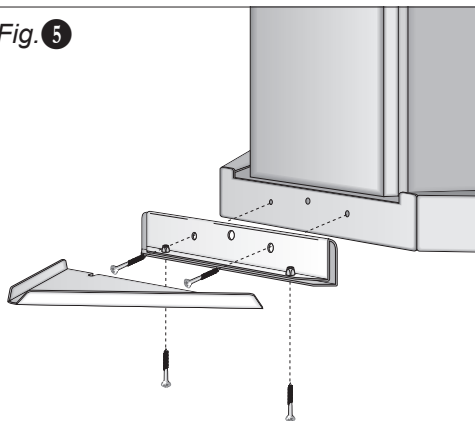

Fig. 6
- Securely hang the cooker hood body to the wall using the 2 screws supplied M5 x 40 (Fig. 6), always considering that the distance between the cook top area and the cooker hood should not be less than 65 cm.
- Fix the cooker hood to the wall on both sides using the 4 screws (A/B). (Fig.6).